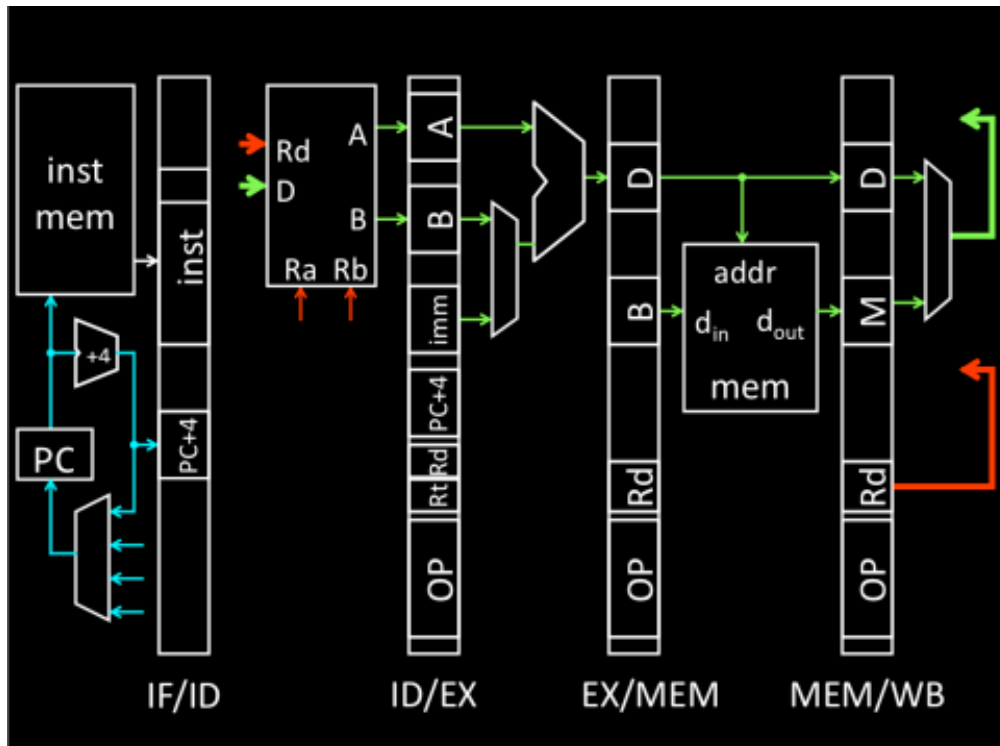
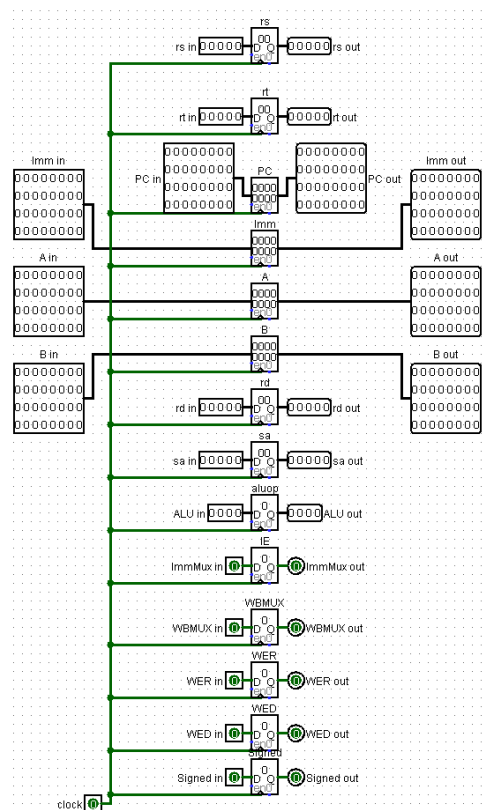

Figure 1: Pipeline
Figure 2: Decode-Execute Isolator
2. **Pipeline Structure:** The implementation of a pipeline (Figure 1) requires the use of a clock as well as several registers to move data between different sections of the pipeline. We will refer to these as "Isolators" (Figure 2), as they isolate the various stages. Pipelining will be further explained in **Section 2.1**.